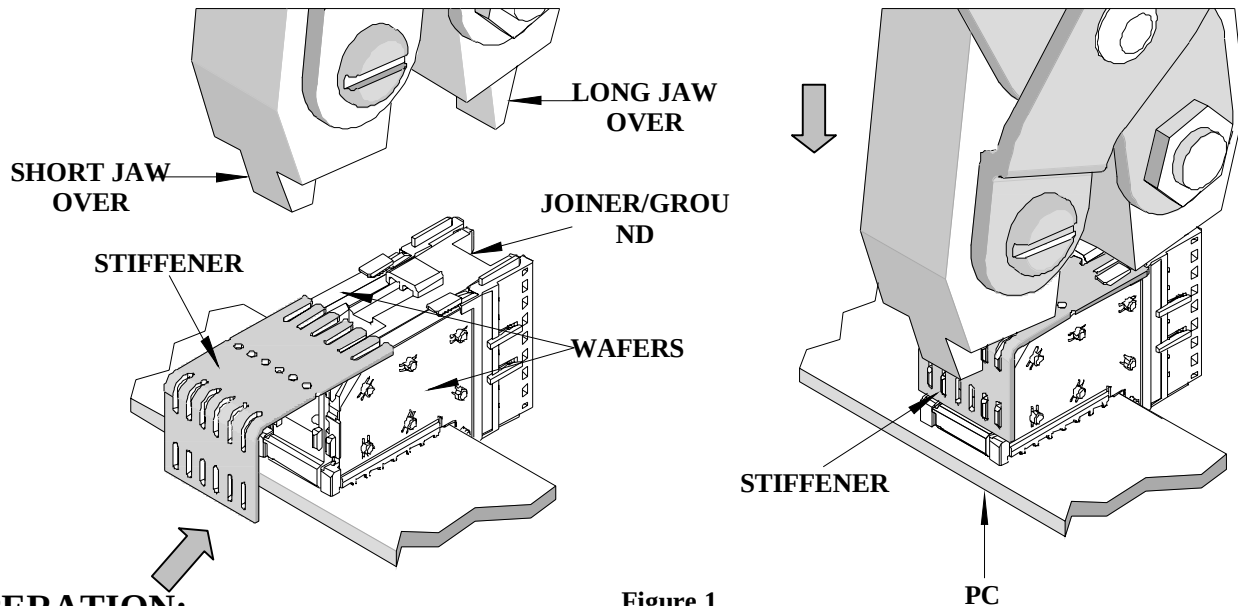

Figure 1
3. Position the 62100-3800 Insertion Tool over the module and stiffener assembly with the long jaw of the tool over the module and the short jaw over the stiffener. See Figure 1.
3. Position the 62100-3800 Insertion Tool over the module and stiffener assembly with the long jaw of the tool against the back of the stiffener and the short jaw against the top portion of the module where it attaches to the stiffener. See Figure 1.